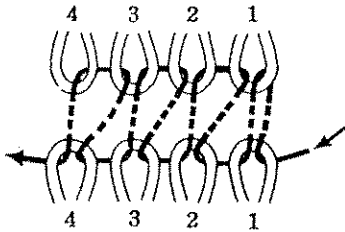

Fig. 97
(D) Insert the needle into the first stitch on the upper side back through the wrong side of the second upper stitch. (Fig. 97) Repeat this procedure until you finish the seam.